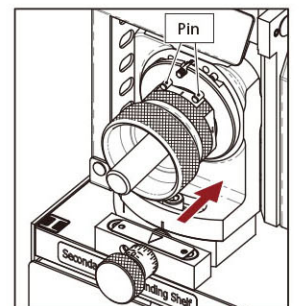

Fig. 10-1
1. 4 Flute Secondary Relief Grinding (I) (Fig. 10-1)